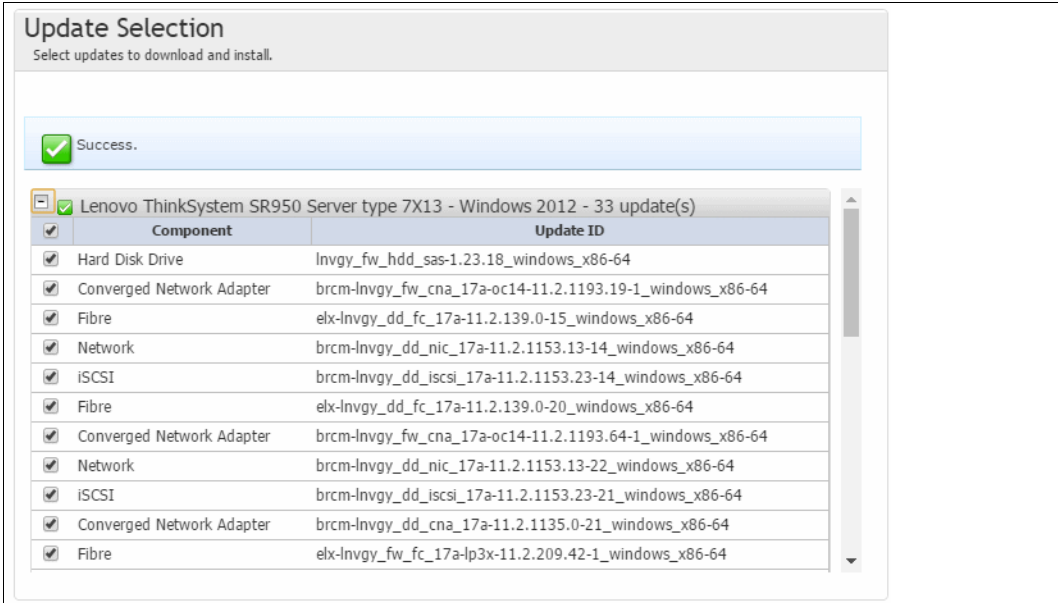

Figure 5-55 Available updates for the SR950
11. In this example there are 33 updates ready to download as shown in Figure 5-55. Use the checkboxes to select and deselect the updates required for the SR950 server and click **Next**.